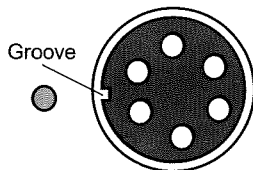

Fig.2A Eyepiece encoder connector
2.6 Refer to Figs 2A, 3 and 4. Mount the eyepiece micrometer on the tester. Connect the eyepiece signal wire. Take notice of the groove's direction. The groove of signal plug (18) should be directed at the red point on the tester.